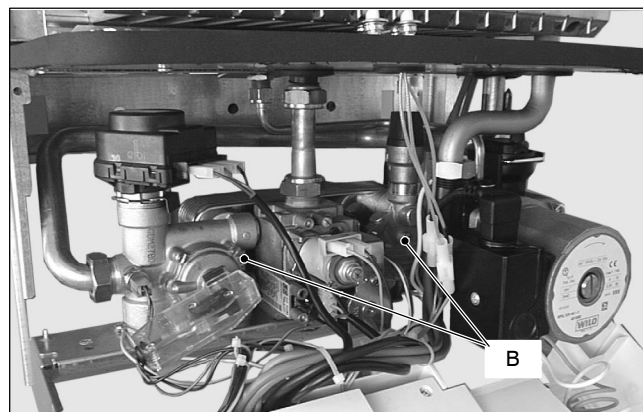

Fig. 15
- 4 Completely unscrew the two Allen key screws B (Fig. 15) which hold the exchanger to the brass groups.